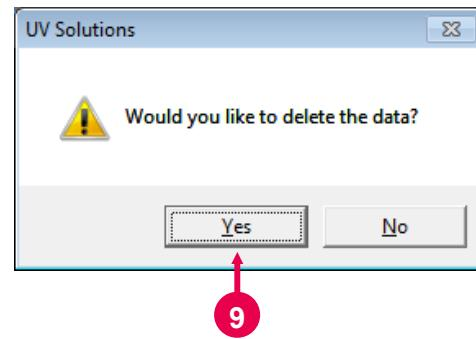

Fig. 5-57
- (6) Read data can be deleted. To delete a data value from the table, click the relevant No. (refer to (7) in Fig. 5-56). Then click the **Delete** button (refer to (8) in Fig. 5-56). A dialog box as shown in Fig. 5-57 will appear. Click the **Yes** button (refer to (9) in Fig. 5-57), and the data value will be deleted.